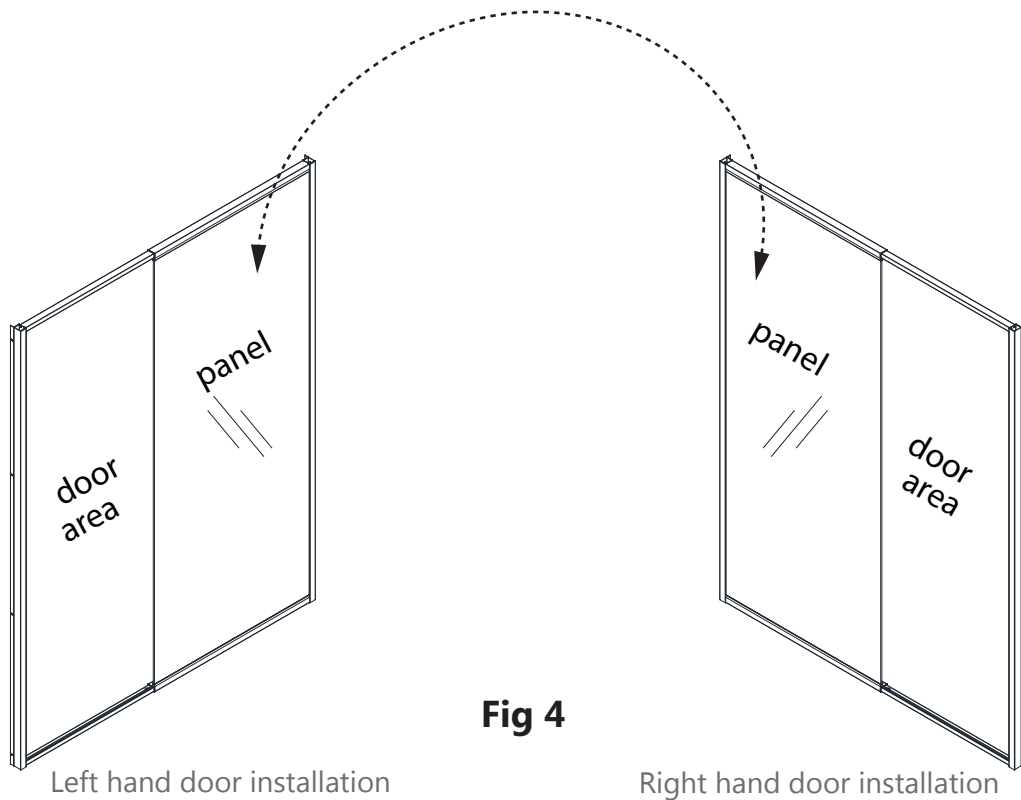

**Fig 2**
**2. Attach the Magnetic Strike Profile (#12) to the Top & Bottom Pivot Rails (#15) using four of the ST4.2 x 25 Round Head Screws (#14). (Fig 2)**